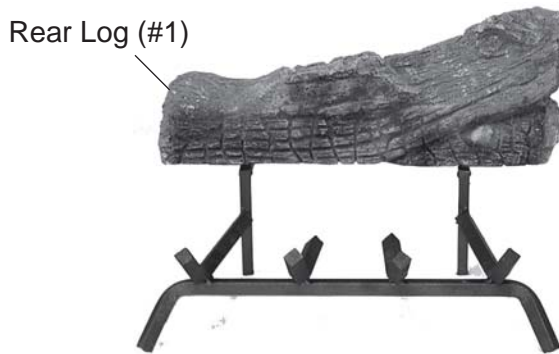

Figure 68 - Placing Rear Log (#1) on Back of Grate
2. Place Back Log #1 on back of grate. *See Figure 68.*